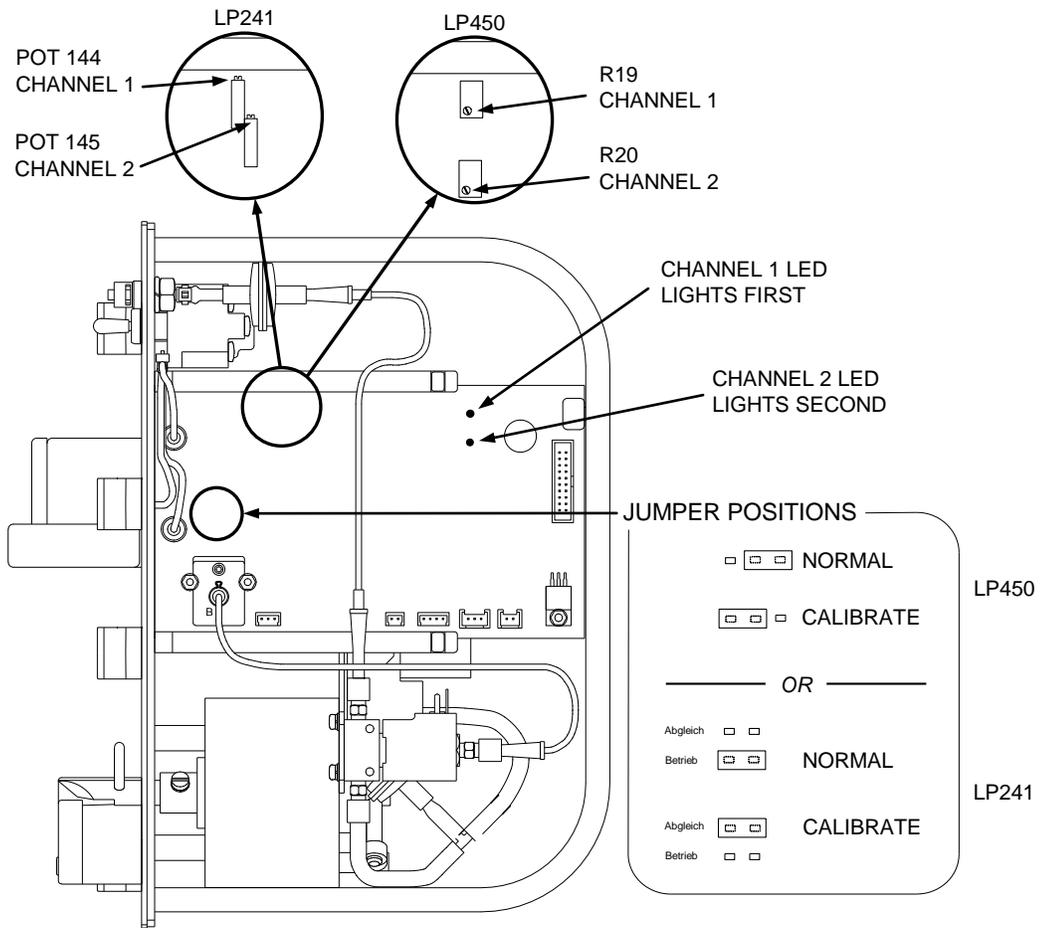

Figure 8 - Level Detector Calibration Adjustments
3. Move the jumper on the LP241/LP450 board to the Calibrate position (see Figure 8).
4. Observe the Channel 1 LED (see Figure 8). If the LED is On, turn channel 1 potentiometer (see Figure 8) clockwise until the LED turns off.
6. Repeat Steps 4 and 5 for the Channel 2 LED, adjusting channel 2 potentiometer (see Figure 8). The response of channel 2 is slower than channel 1. When adjusting to the switch point, move the potentiometer in small steps and wait to see if the LED switches on.
7. Move the jumper back to the Normal position (see Figure 8).